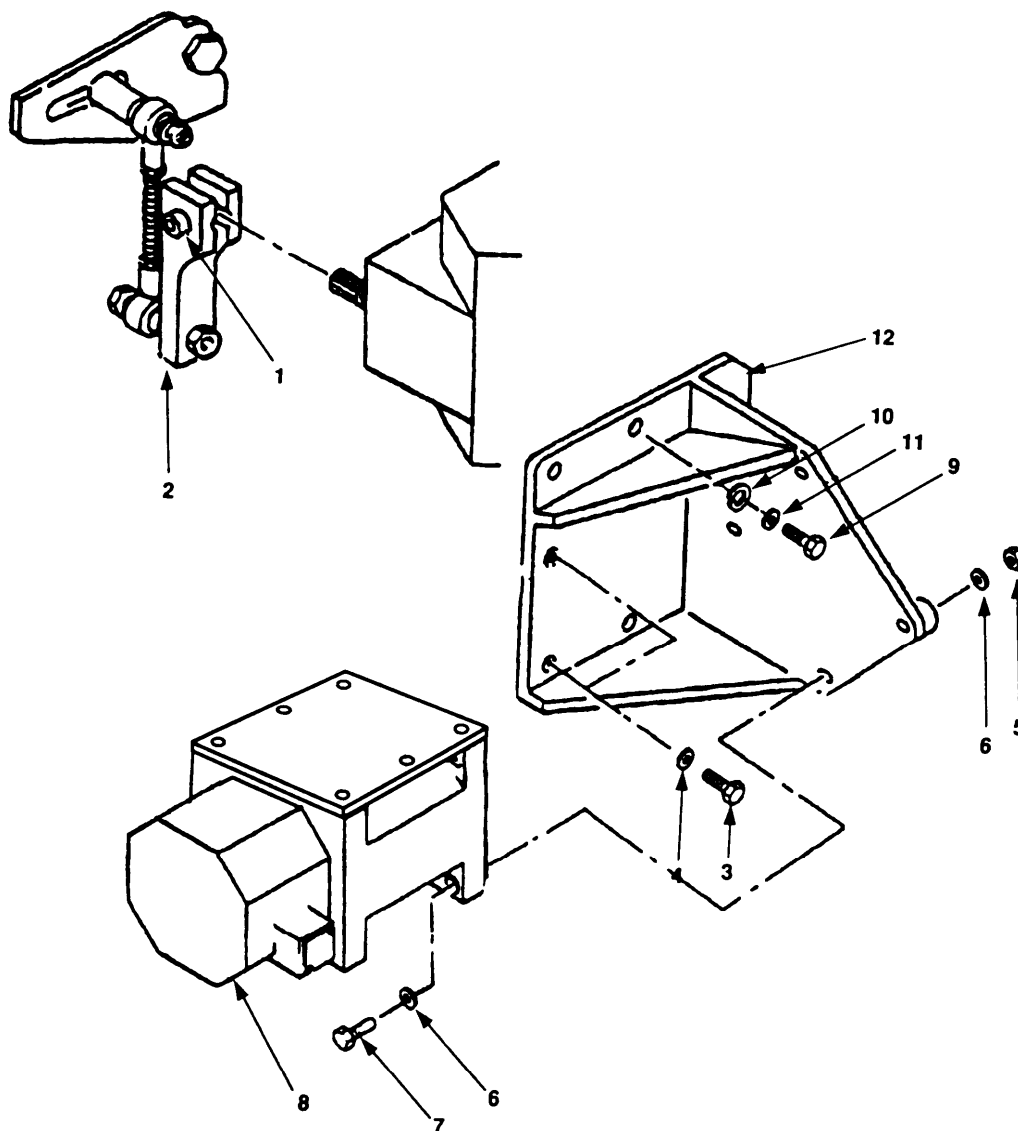

Figure 4-58. Actuator and Mount Bracket Maintenance
- a. Loosen socket head screw (figure 4-58, 1) in actuator lever (2).
- b. Remove two screws (3) and lockwashers (4).
- c. Remove four lock nuts (5), eight washers (6), and four screws (7).
- d. Remove actuator (8).
- e. Remove three screws (9), lockwashers (10), washers (11) and mount bracket (12).
- a. Position mount bracket (12) in place and install with three screws (9), washers (11), and lockwashers (10).
- b. Place actuator (8) on mount bracket (12).
- c. Install four screws (7), eight washers (6), and four lock nuts (5).
- d. Install two screws (3) with lockwashers (4).
- e. Position actuator lever (2) on actuator (8) and tighten socket head screw (1).